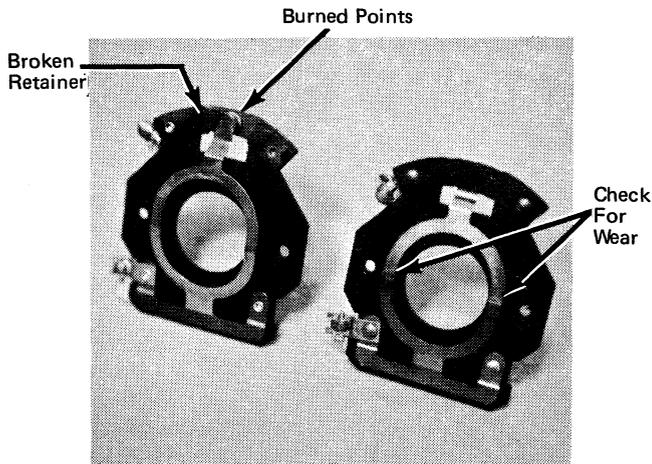

Figure 1-11. Motor Start Switch
4. If the switch is the type shown in Figure 1-11, examine the portion which rides against the plastic collar. Replace if worn.